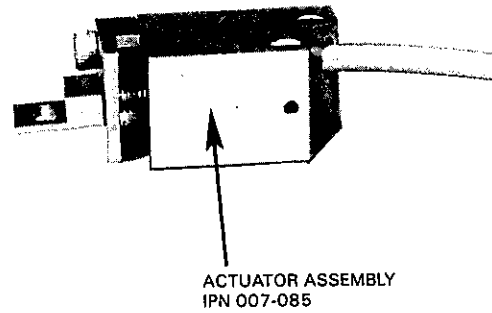

Fig. 5-6b
- Step 4: Add the actuator assembly to the dual sensor body (Fig. 5-6b) by inserting the piston coupling into the cam pin, aligning the actuator assembly with the #4-40 holes on the back of the sensor body, and inserting the two #4-40 x 5/8" screws and lockwashers (do not tighten).